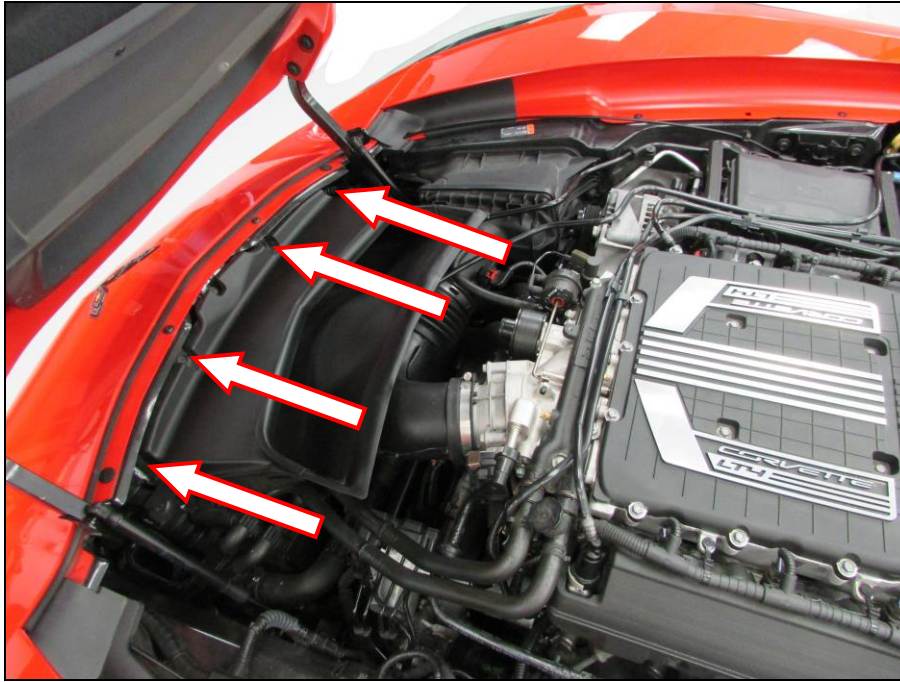

Figure 1
2. Remove the factory radiator duct by removing the (x4) screws securing it (**Figure 1**).